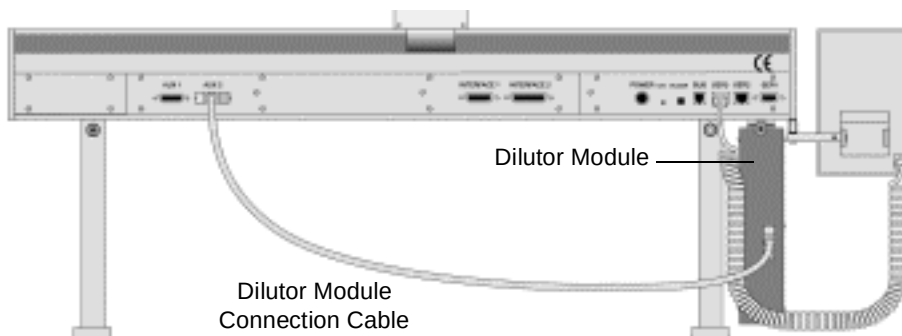

Figure 2-35 Connecting the Dilutor Module Connection Cable
1. Connect one end of the dilutor module connection cable to the AUX2 or AUX connector at the rear of the X-crossrail (Figure 2-35).